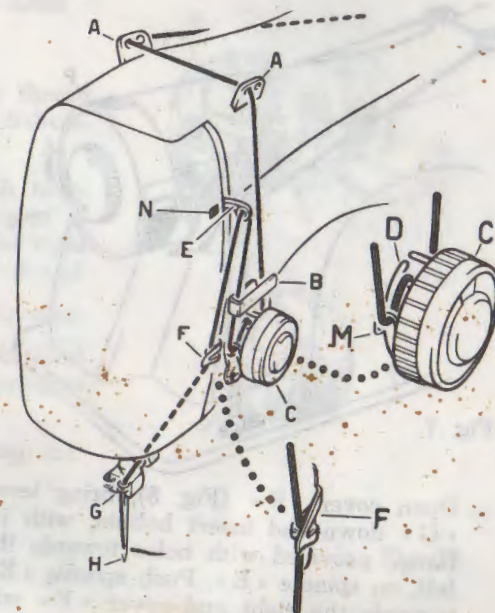

Fig. 5
Pass thread through points shown in Fig. 5. After having passed thread between tension discs housing « C », hold thread between the two thread guides « A » in the same time slightly pulling thread towards the right so that it pulls up spring « M » and places itself astride of hook « D ».
- Bring needle to its highest position and thread take-up lever « E » in correspondence with mark line « N » on front plate (Fig. 5);